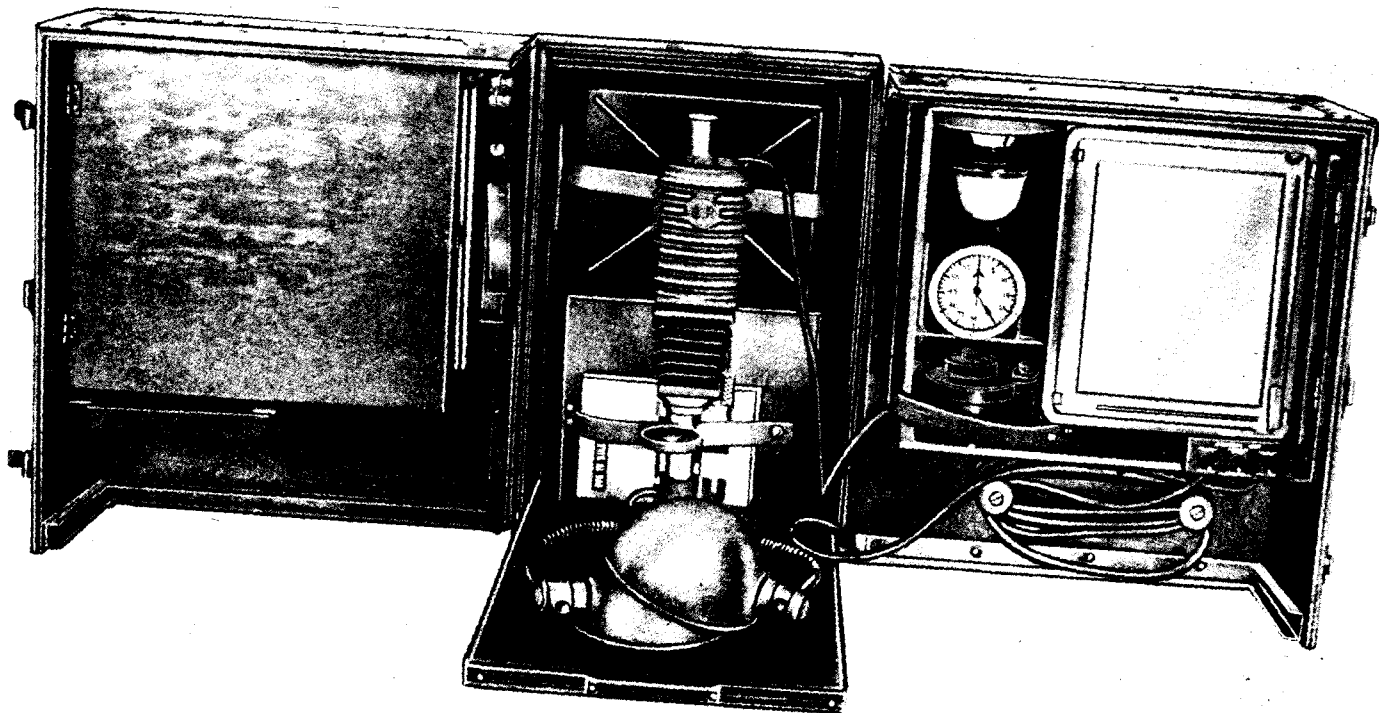

Figure 1. Photographic Set ES-12 (1), case open.
3. Photographic Set ES-12 (1)
a. General (figs. 1 and 2). Photographic Set ES-12 (1) is an assembly of equipment, chemicals, and other materials (*b* below) used to take photographs, to process film and enlarging papers, and to make copy prints. It is used to produce and process projection prints from processed 35-millimeter (mm) still-camera film. The equipment is portable and it is intended primarily for field use.